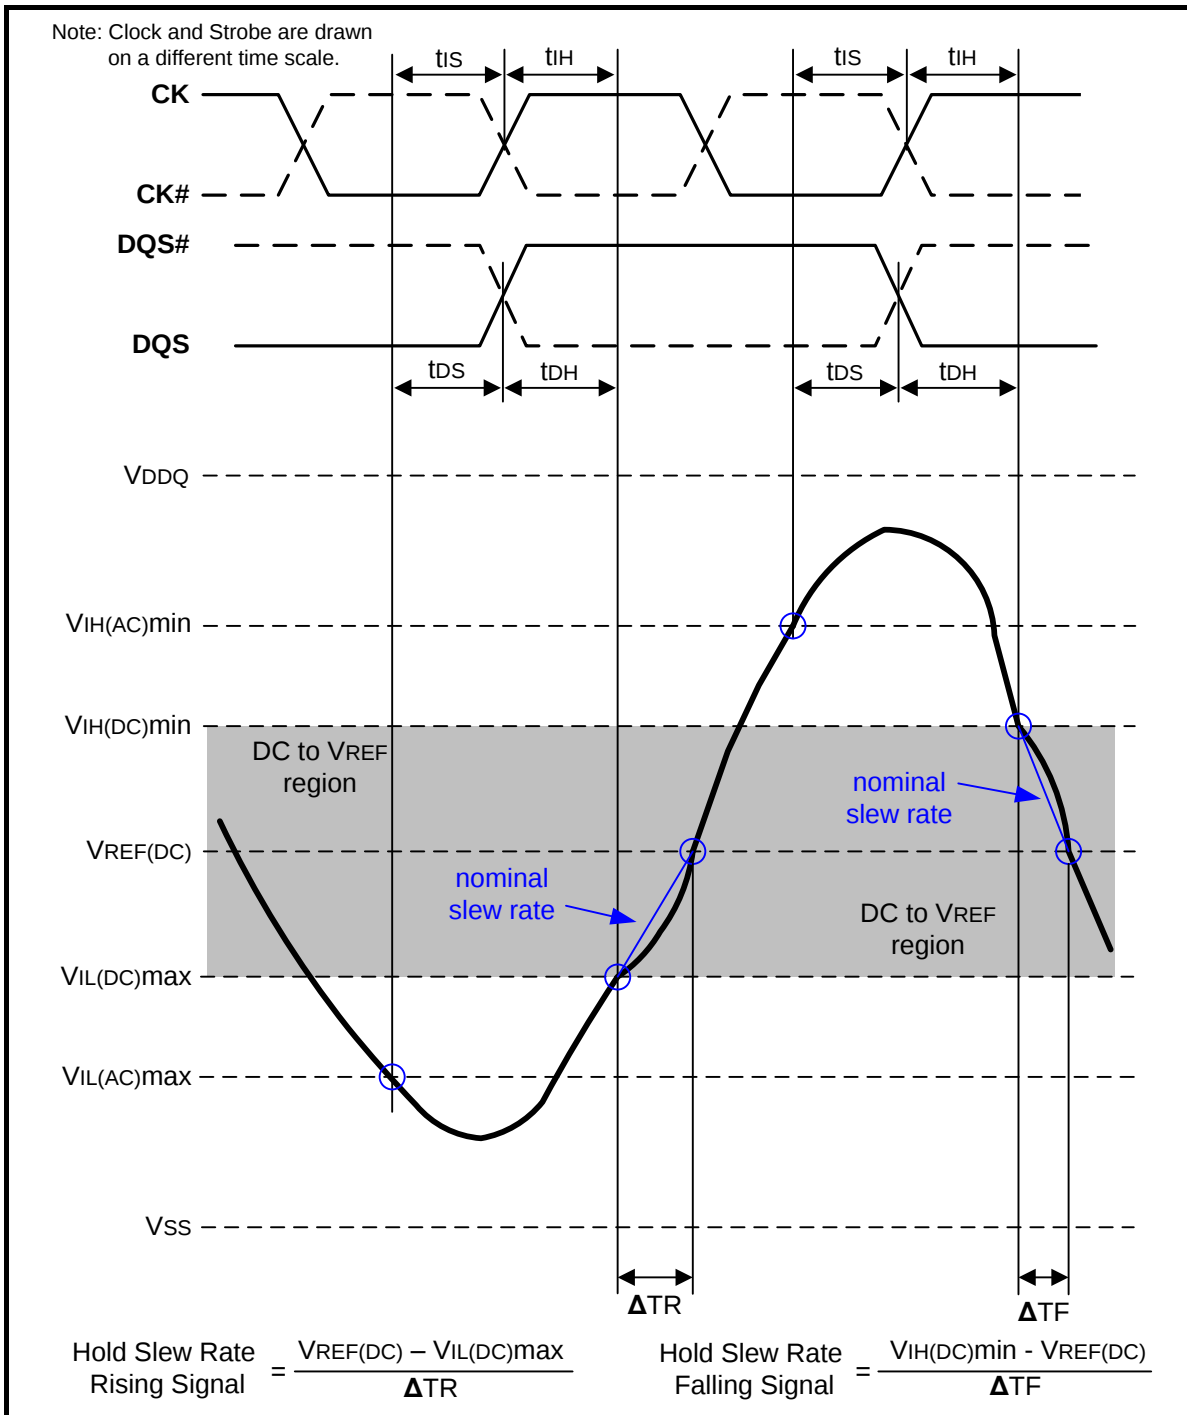
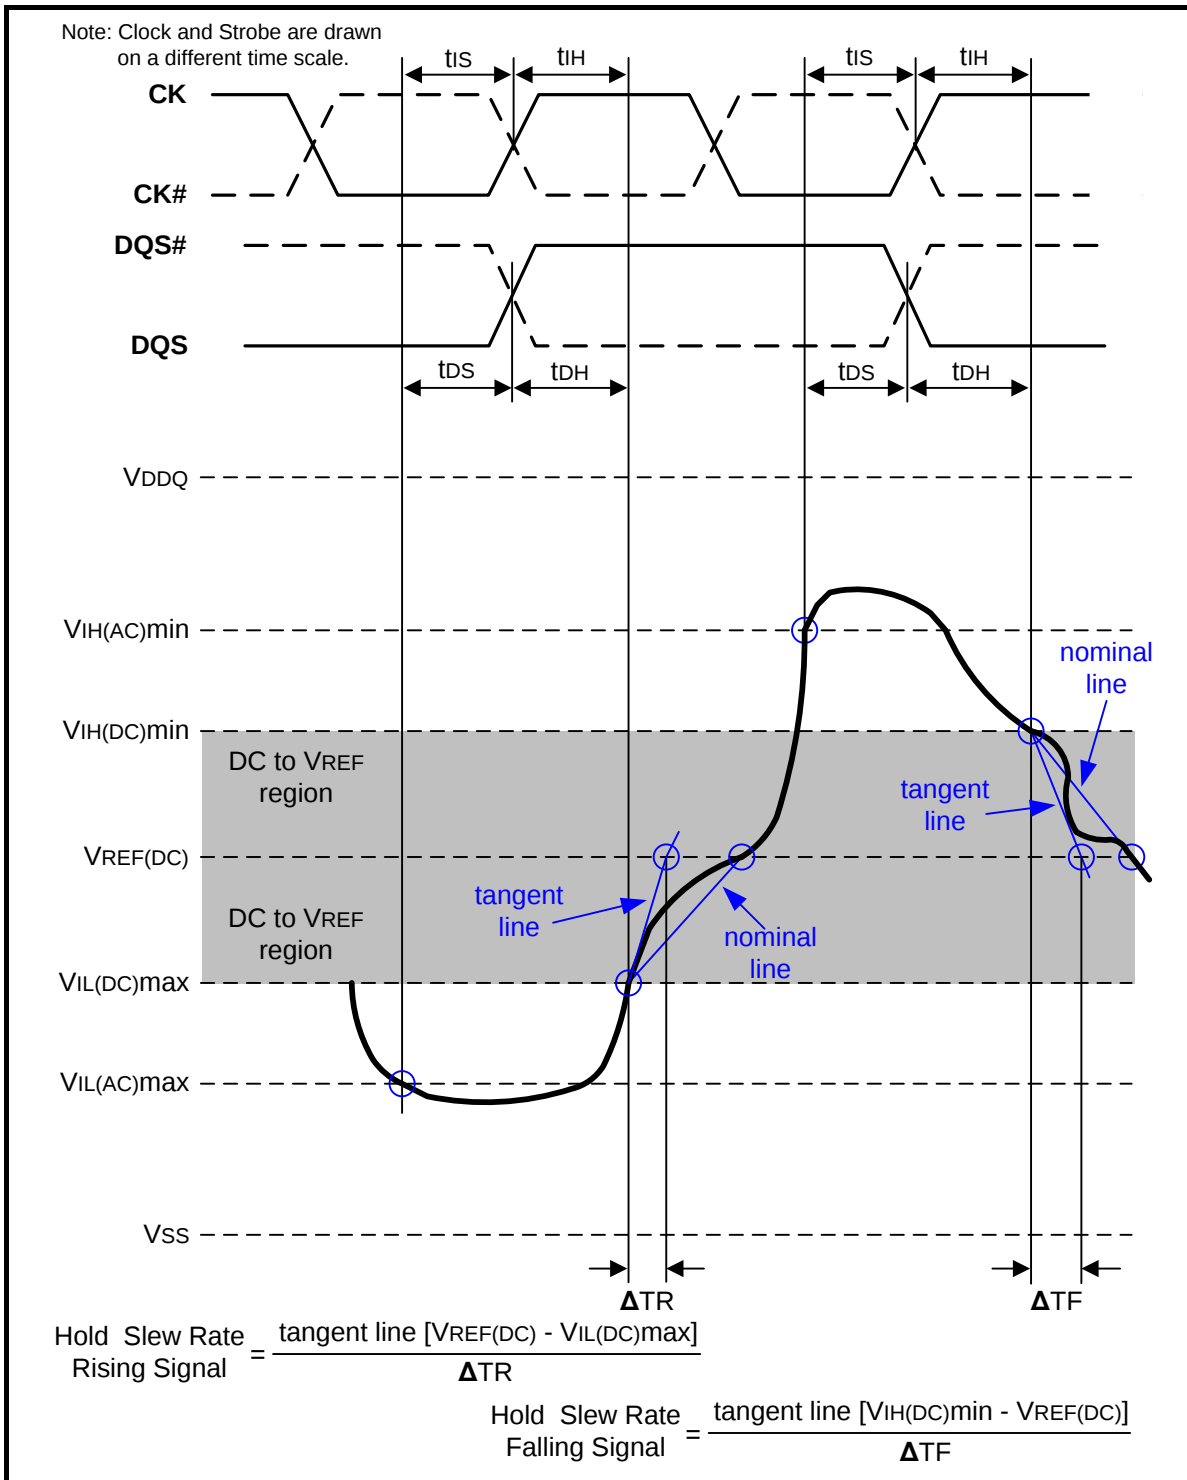

Figure 108 – Illustration of nominal slew rate for hold time t_{DH} (for DQ with respect to strobe) and t_{IH} (for ADD/CMD with respect to clock)
Figure 110 – Illustration of tangent line for for hold time t_{DH} (for DQ with respect to strobe) and t_{IH} (for ADD/CMD with respect to clock)
Hold (t_{IH}) nominal slew rate for a rising signal is defined as the slew rate between the last crossing of $V_{IL}(\text{DC})_{\text{max}}$ and the first crossing of $V_{REF}(\text{DC})$. Hold (t_{IH}) nominal slew rate for a falling signal is defined as the slew rate between the last crossing of $V_{IH}(\text{DC})_{\text{min}}$ and the first crossing of $V_{REF}(\text{DC})$. If the actual signal is always later than the nominal slew rate line between shaded 'DC to VREF(DC) region', use nominal slew rate for derating value (see Figure 108). If the actual signal is earlier than the nominal slew rate line anywhere between shaded 'DC to VREF(DC) region', the slew rate of a tangent line to the actual signal from the DC level to $V_{REF}(\text{DC})$ level is used for derating value (see Figure 110).
Hold (t_{DH}) nominal slew rate for a rising signal is defined as the slew rate between the last crossing of $V_{IL}(\text{DC})_{\text{max}}$ and the first crossing of $V_{REF}(\text{DC})$. Hold (t_{DH}) nominal slew rate for a falling signal is defined as the slew rate between the last crossing of $V_{IH}(\text{DC})_{\text{min}}$ and the first crossing of $V_{REF}(\text{DC})$ (see Figure 108). If the actual signal is always later than the nominal slew rate line between shaded 'DC level to VREF(DC) region', use nominal slew rate for derating value. If the actual signal is earlier than the nominal slew rate line anywhere between shaded 'DC to VREF(DC) region', the slew rate of a tangent line to the actual signal from the DC level to VREF(DC) level is used for derating value (see Figure 110).